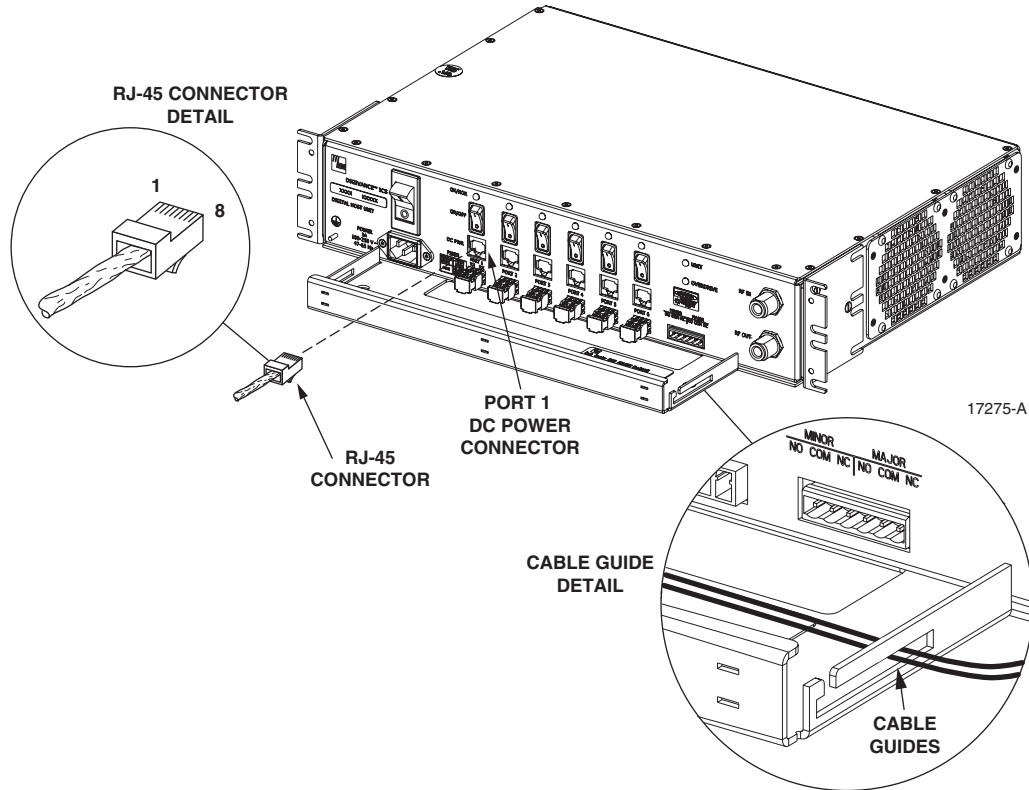

Figure 21. 48 VDC Power Cable Connection
5. Connect the DC power cable to the DHU port 1 DC PWR jack as shown in Figure 21.
6. Place the DC power cable within the cable guides provided (see Figure 21) and then dress and secure the cable at the DHU per standard industry practice.